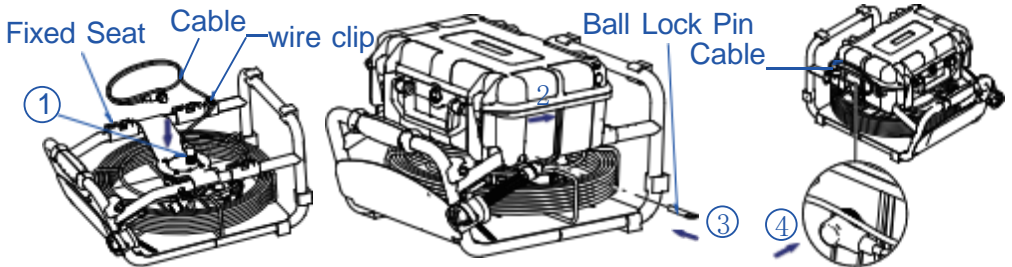

Figure 7. Install Toolbox Unit
2. Install Control Unit (Figure 7.)